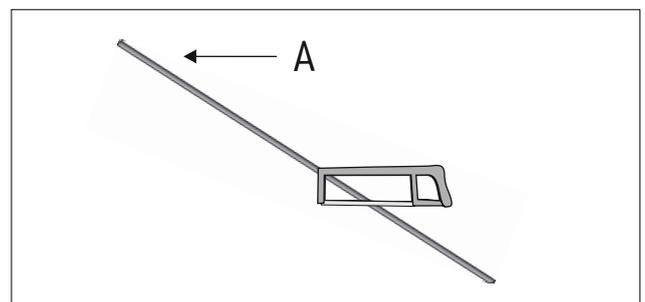

Figure 1
1 - You may cut the stem (A) to the desired length using a metal saw. Polish the rough edges. Figure 1.